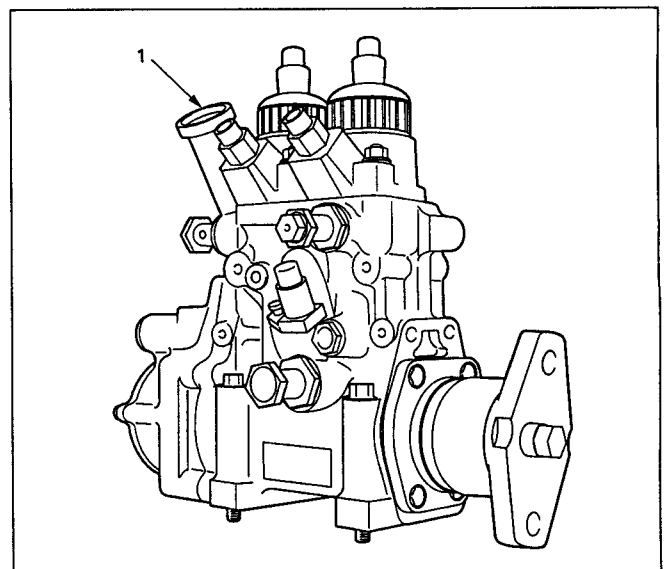
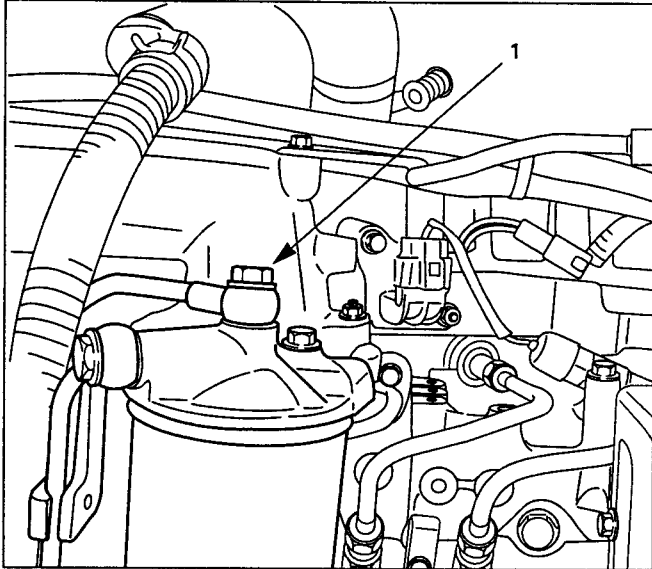

Figure 19 – Primer Pump
Figure 20 – Fuel Filter
3. Pump the primer pump (1, Figure 19), until a solid stream of fuel comes from the fuel filter feed line eye bolt (1, Figure 20).